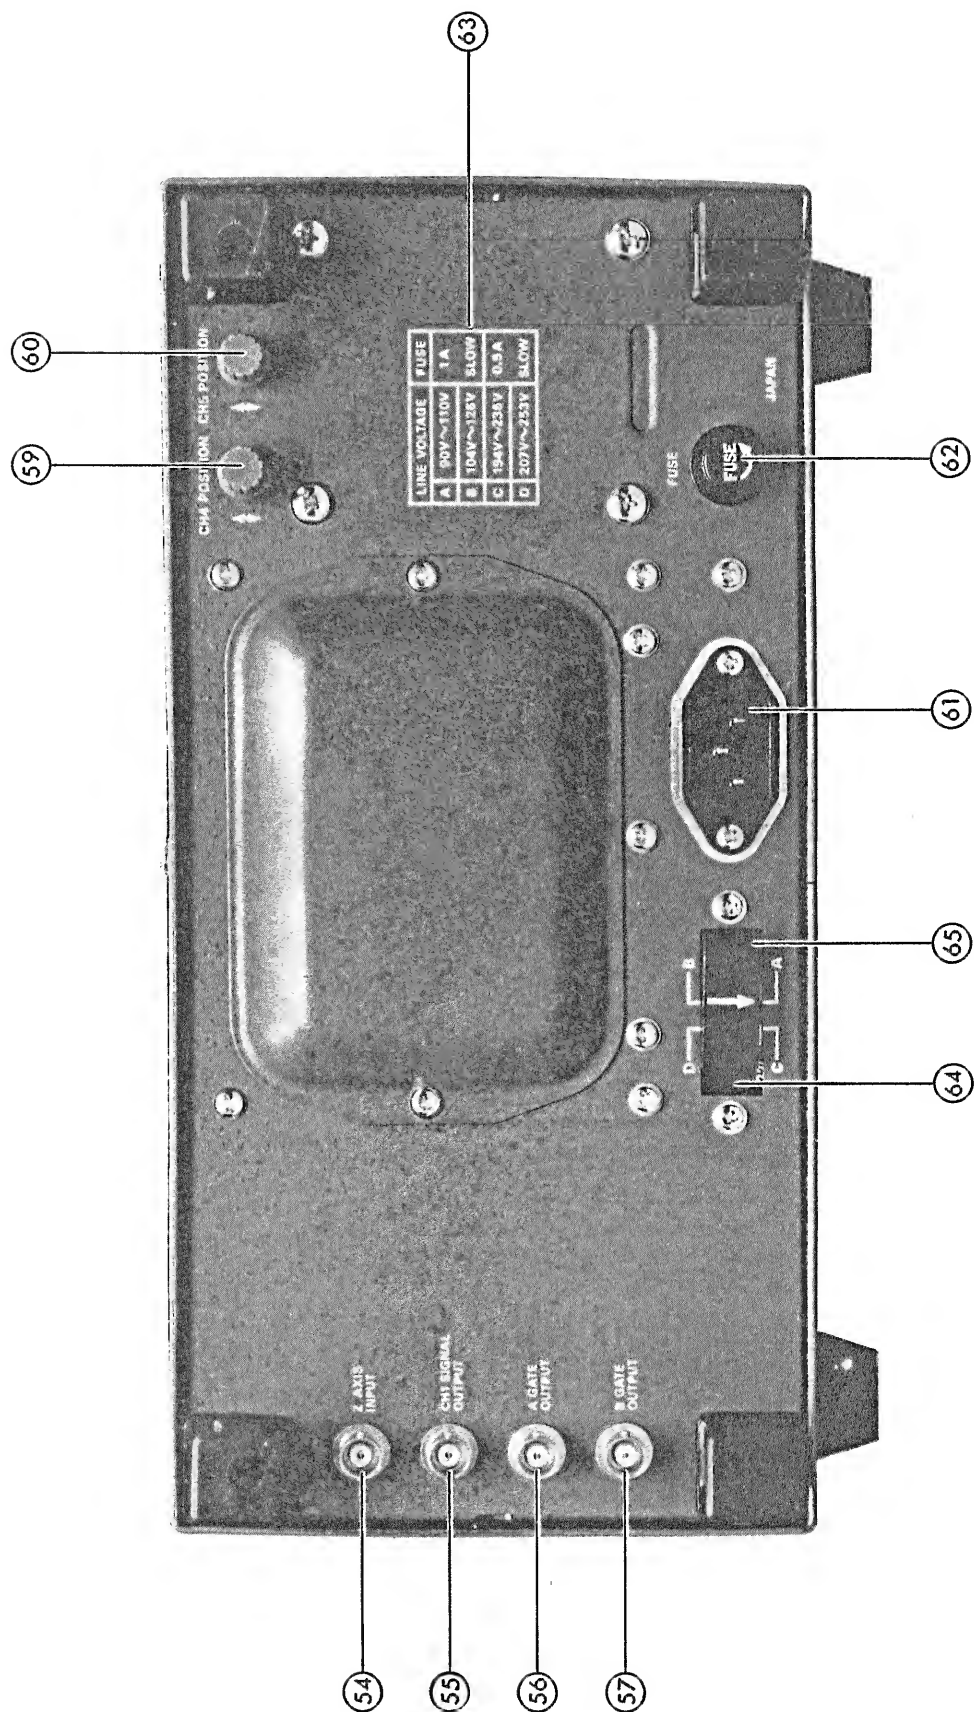

Figure 4-2
4.2 Explanation of Rear Panel (See Figure 4-2.)